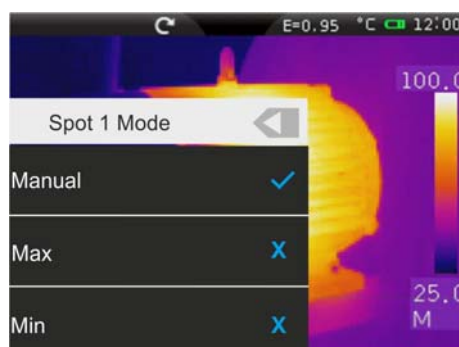

Fig. 22: Measuring modes associated to cursors
2. Touch the icon “” to select the modes which can be associated to each cursor (see Fig. 22). Following options, which exclude one another, are available: **Manual** (cursor freely managed by the user), **Max** (cursor associated to the hottest spot of the image), **Min** (cursor associated to the coldest spot of the image). The selection is indicated by the icon “” on the display